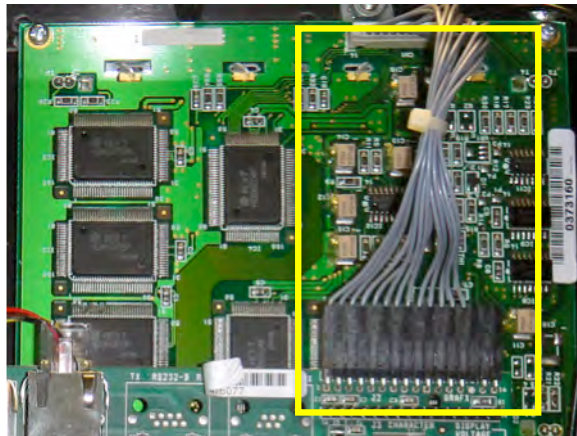

Figure 2: Display Cable Connection to the PV343 Board J2 Socket
- Ensure cable wires exit both the PV343 main board and display connections in a downward direction. This will avoid damage, and ensure correct display operation. See Figure 2 below.